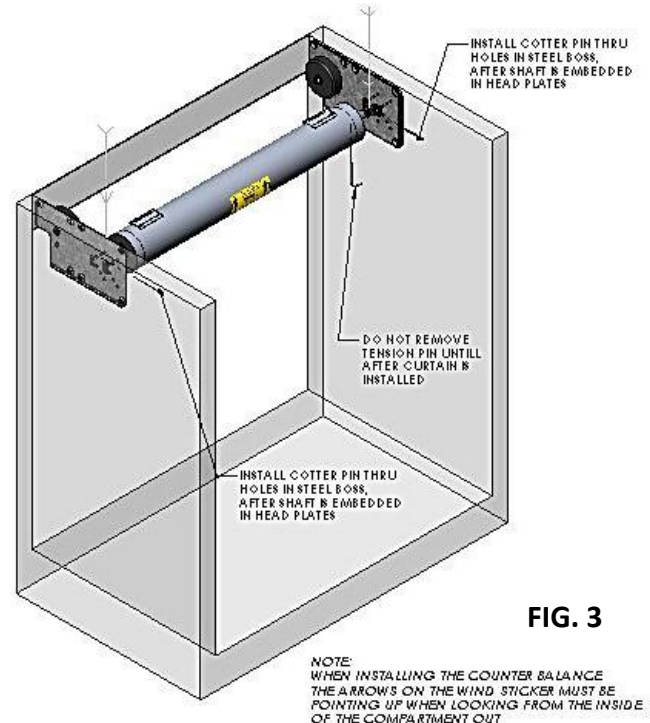

FIG. 3
2) Install Counter balance (CB) See FIG. 3